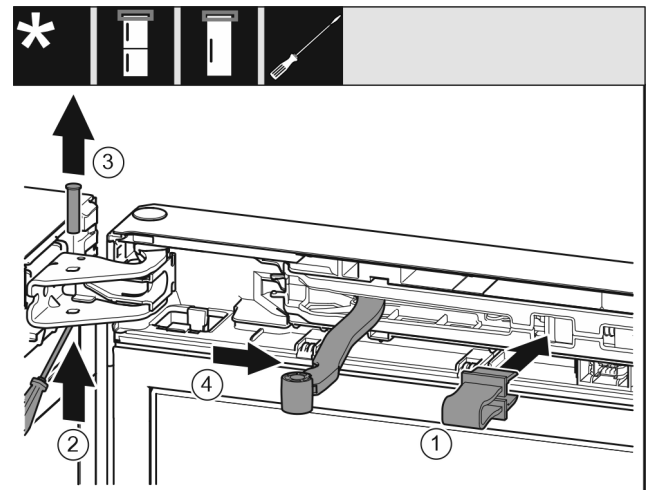

Fig. 10
- ▶ Engage the locking device in the opening. Fig. 10 (1)
- ▶ Unscrew the bolt with a screwdriver. Fig. 10 (2)
- ▶ Remove the bolt upwards. Fig. 10 (3)
- ▶ Turn the hinge in the direction of the door. Fig. 10 (4)